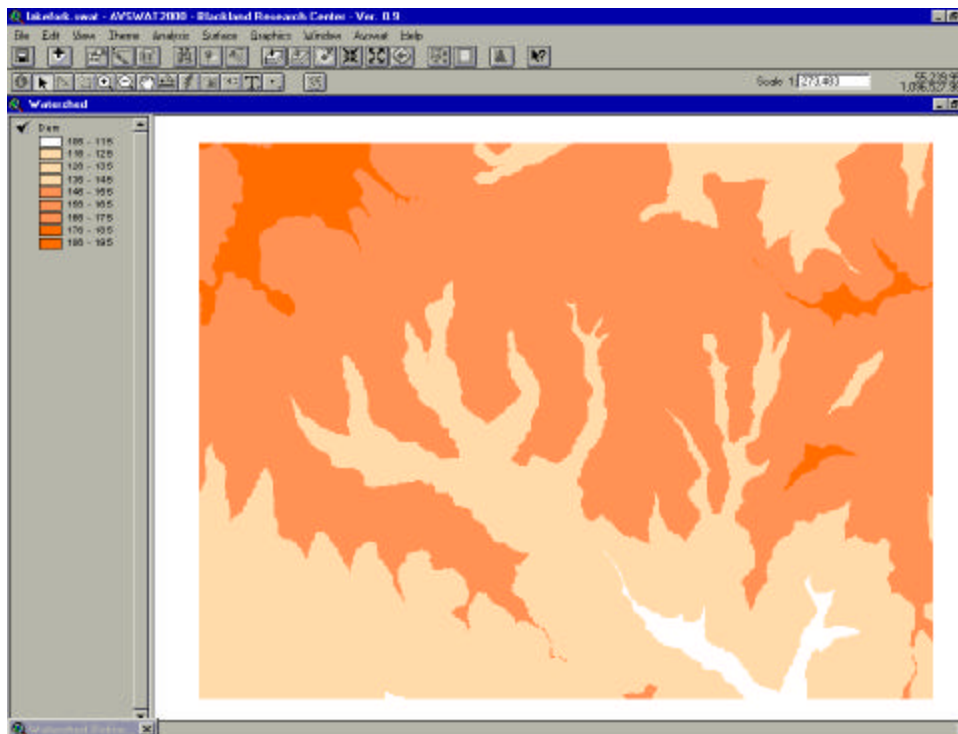

Figure 15.11
- The name of the elevation map grid will be displayed in the **DEM grid** text box on the Watershed dialog box, and the elevation map will be displayed (Figure 15.11).